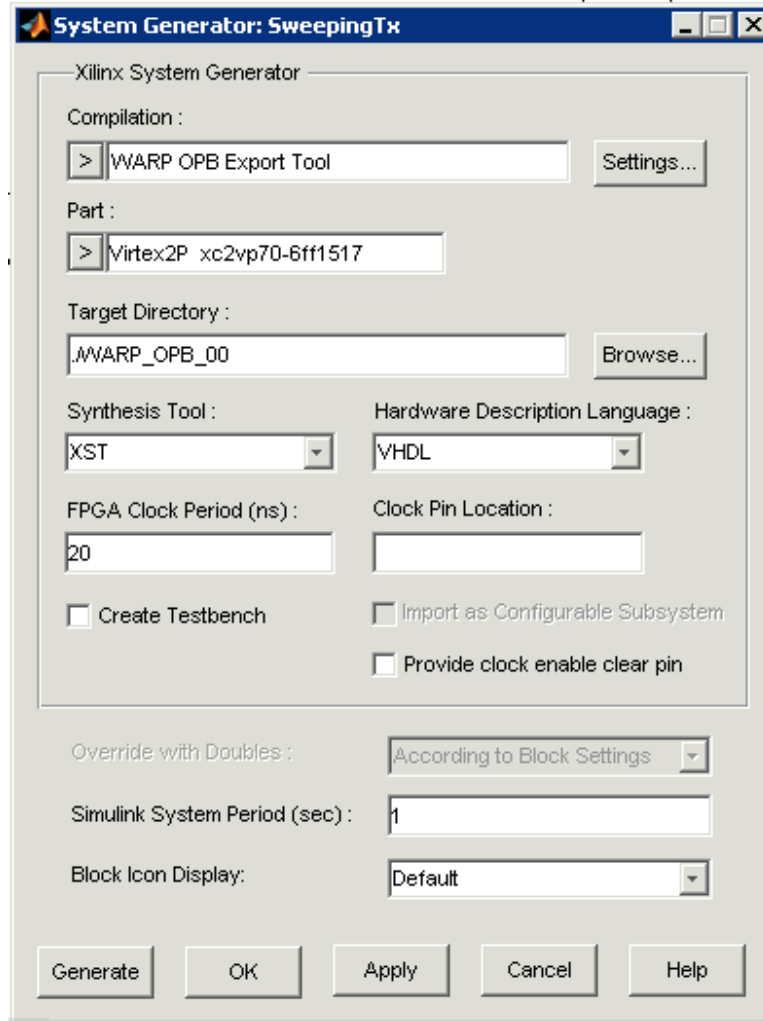

Figure 1: System Generator parameters for OPB core generation
4. Double-click the **System Generator** block. Make sure its parameters match those shown in Figure 1.